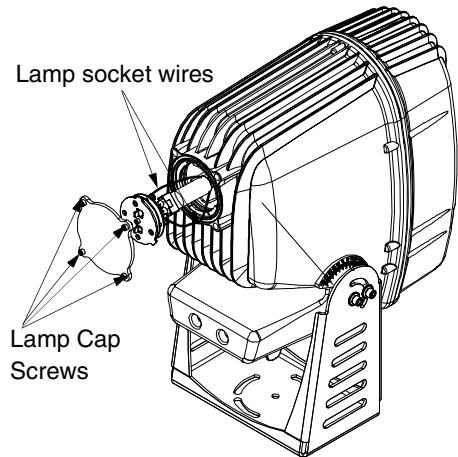

Figure 3-5a Removing the lamp socket assembly
3. Locate and loosen the lamp cap screws (see Figure 3-5a) with the 9/64in. allen wrench. Remove the lamp cap.
*Note: The lamp assembly is connected to the fixture by lamp socket wires (see Figure 3-5a). Hold the assembly while replacing the lamp. Do not allow the lamp socket wires to support the weight of the lamp assembly.*